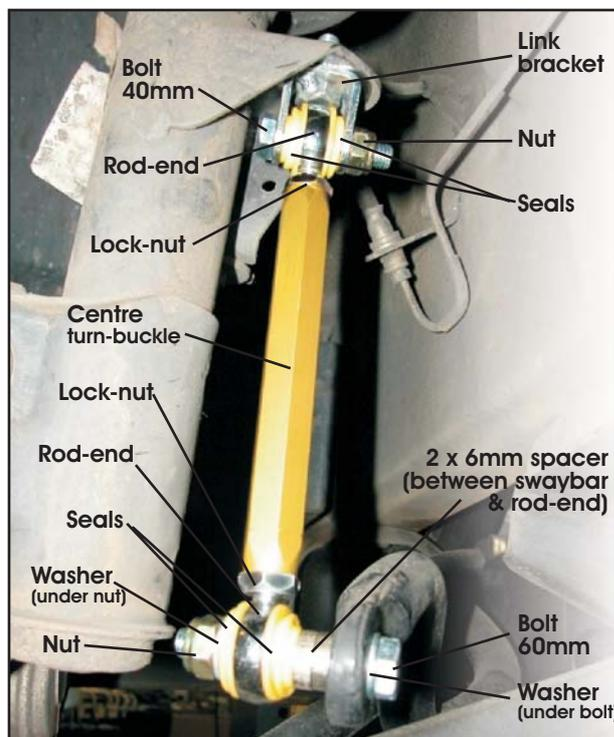

Fig1. KLC003 complete assembly
3. Assemble links, placing dust seals and spacers as shown in Fig. 1.
7. Using new hardware supplied, loosely connect both link assemblies to the swaybar. Refer Fig. 1.